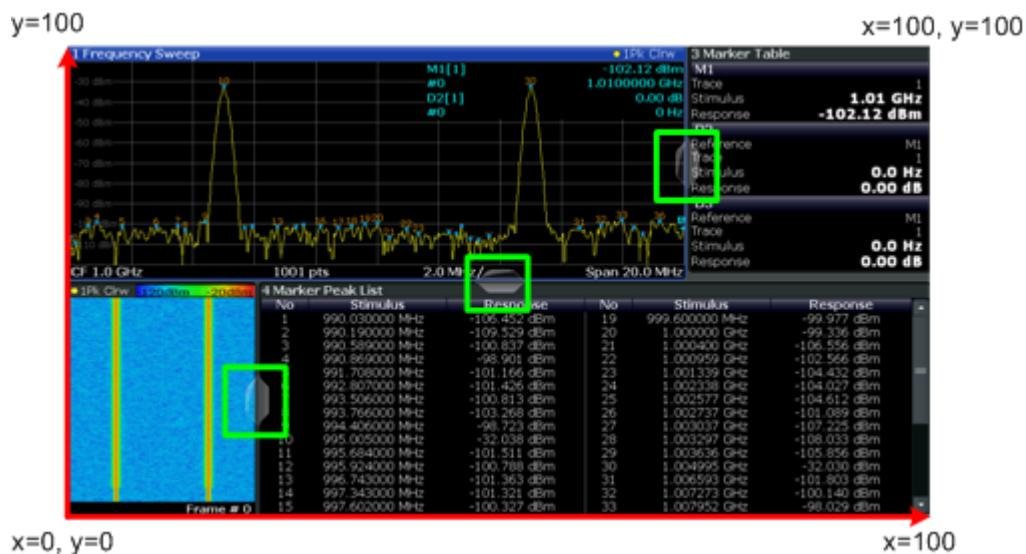

Fig. 9-1: SmartGrid coordinates for remote control of the splitters
- The point of origin ($x = 0, y = 0$) is in the lower left corner of the screen. The end point ($x = 100, y = 100$) is in the upper right corner of the screen. (See figure 9-1.)